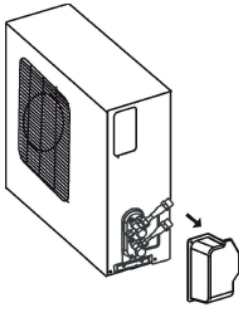

Fig. 6.1
1. First remove the water tray on the outdoor unit as shown in Fig.6.1.